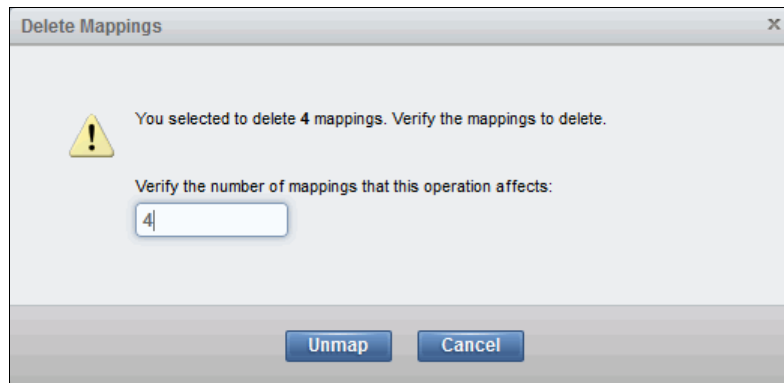

Figure 8-38 Unmapping a volume from host
3. Enter the number of mappings to be removed (as shown in Figure 8-38), and click **Unmap**. The mappings for all selected entries are removed.